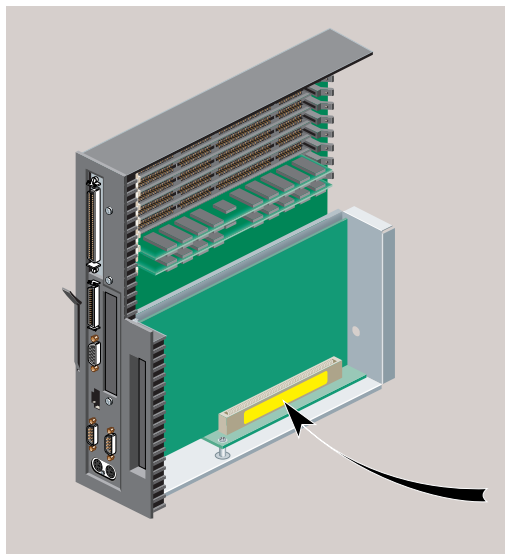

Figure 1-21 Locating the Serial Number Inside the Workstation
- Inside the workstation, it's on the connector of the PCI tray, which is attached to the system module (Figure 1-21). (To remove the system module, see "Removing the System Module.")